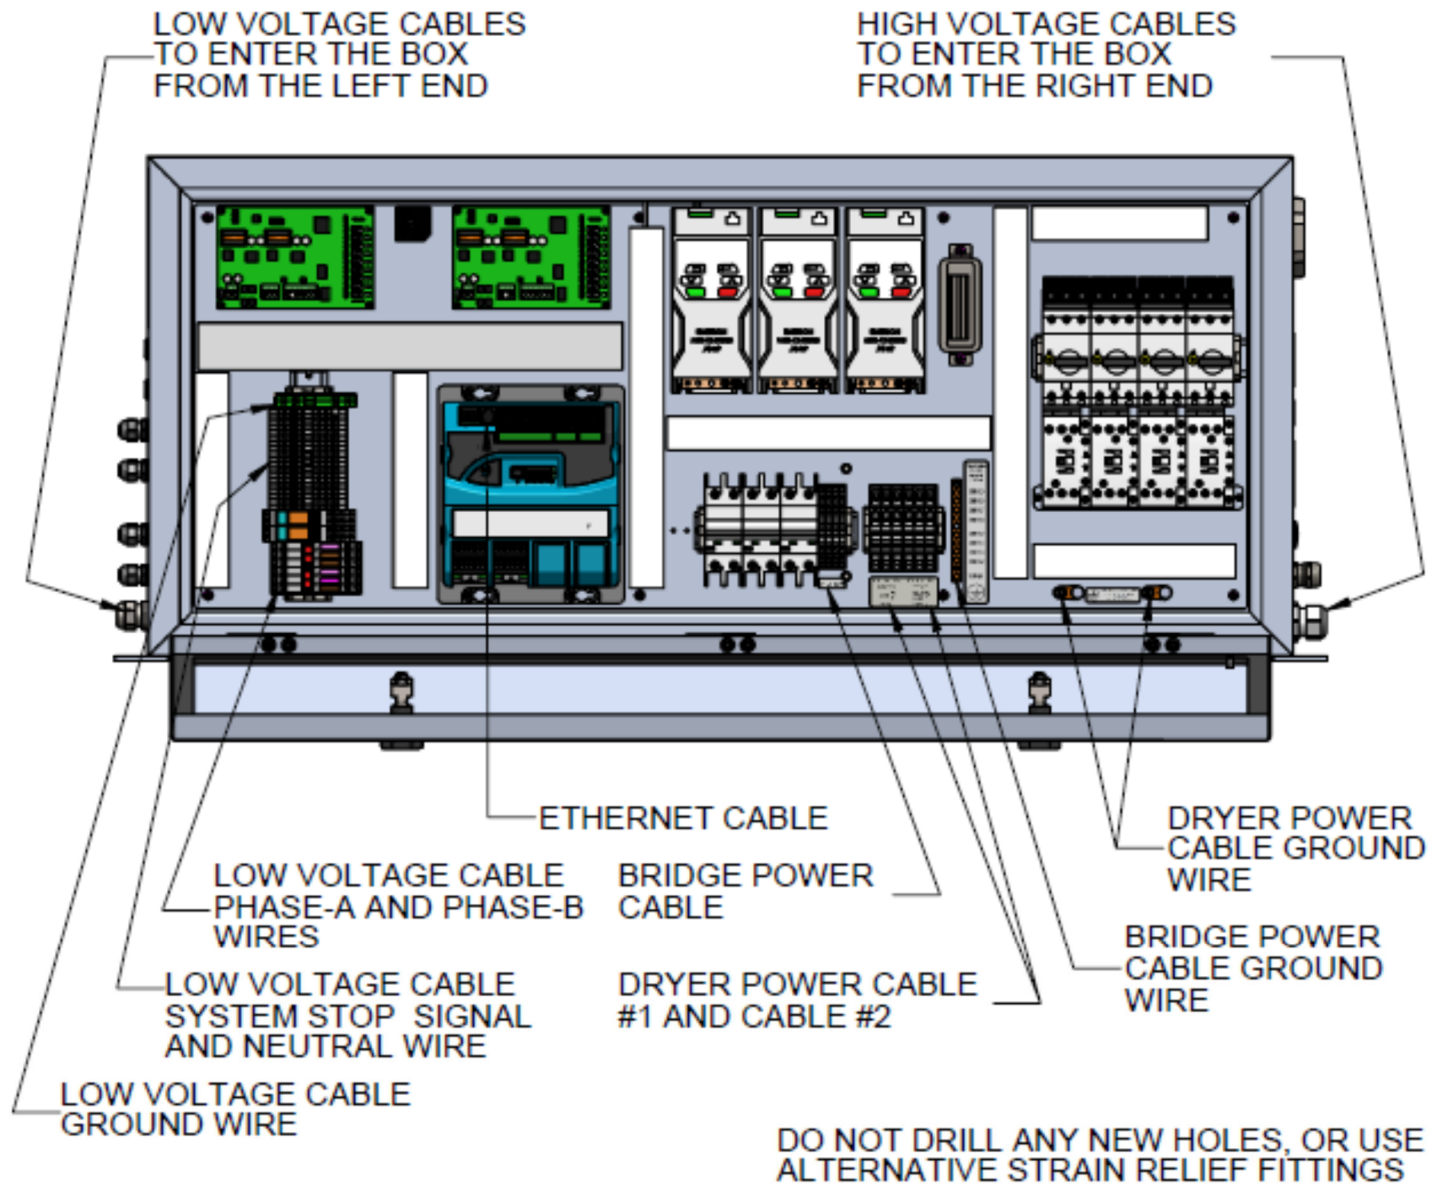

Figure 82 - Bridge Electrical Cable Terminations
- Connect the cables included in the e-chain to the appropriate termination points on the bridge enclosure. Terminate bridge power, system stop, Ethernet communication, and dryer power (if equipped), See Figure 82.